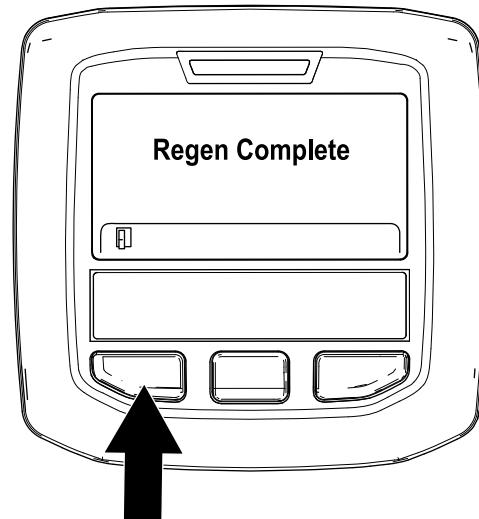

Figure 48
- The parked regeneration is complete when the "Regen Complete" message displays in the InfoCenter. Press the left button to exit to the home screen (Figure 48).